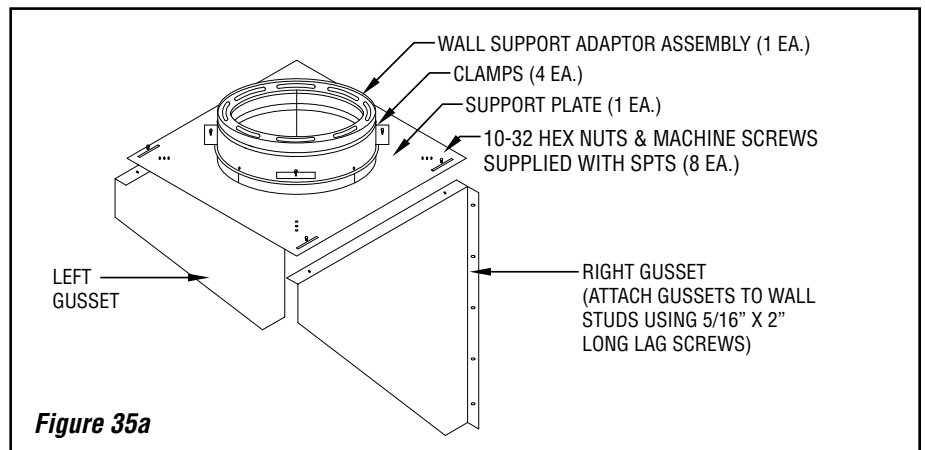

Figure 35a
7. Attach wall support plate to wall support adaptor using 4 clamps provided. Do not tighten. (See **Figure 35a**).
9. Install the tee cap to the bottom of the wall support adaptor with a minimum of two (2) #10 x 1/2" sheet metal screws.